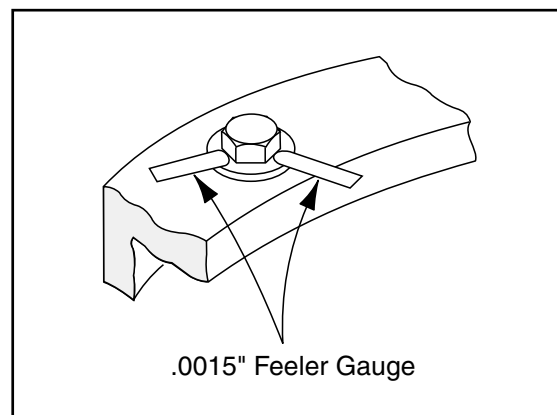

Figure 2-30. Swing Bearing Bolt Feeler Gauge Check
2. At the positions indicated on Figure 2-30., Swing Bearing Bolt Feeler Gauge Check, try and insert the 0.0015" feeler gauge between the bolt head and hardened washer at the arrow indicated position.
4. At the position indicated on Figure 2-30., Swing Bearing Bolt Feeler Gauge Check, try and insert the 0.0015" feeler gauge between the bolt head and hardened washer at the arrow indicated position.